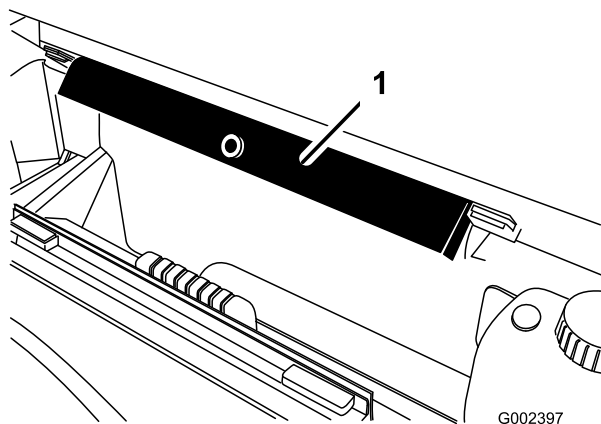

Figure 28
2. Remove the bed support from the storage brackets on back of the ROPS panel (Figure 28).